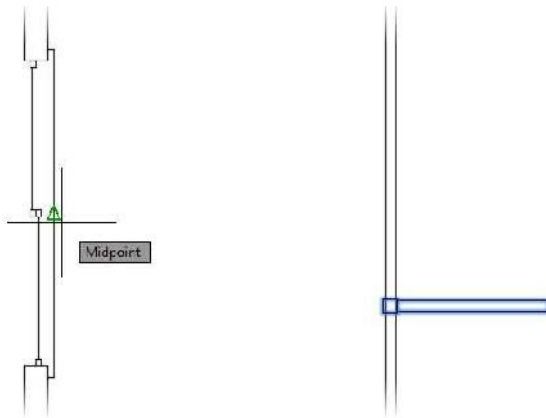

FIGURE 5.21: Using the midpoint of the threshold as the first mirror point
4. Use the Midpoint osnap, and then specify the midpoint of the vertical threshold line as the first point of the mirror line, as shown in Figure 5.21.